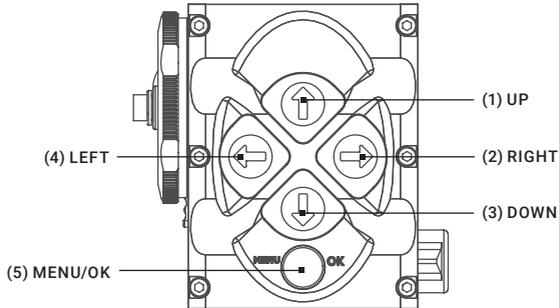
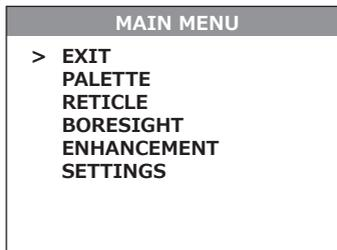

FIGURE 2-15. MAIN MENU NAVIGATION BUTTONS
FIGURE 2-16. MAIN MENU
To display the MAIN MENU, push and hold down the MENU button (5) on the control panel (Figure 2-15).
Once the MAIN MENU is displayed (Figure 2-16), use the UP and DOWN buttons (Figure 2-15) to navigate through the items on the menu.